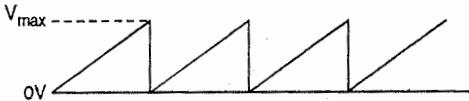

Fig. P. 3.1.4 : Sawtooth waveform
**Soln.:** The interfacing diagram is same as shown in Fig. P. 3.1.1. A sawtooth (ramp) waveform is shown in Fig. P. 3.1.4. It has an amplitude that is continuously increasing to maximum value.